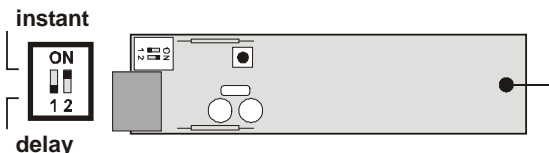

Figure: 2 The JA-60N transmitter
- To enroll the barrier to a Jablotron alarm system insert its battery into the RX unit (white mark) while the receiver (JA-63KR, UC-260 etc) is in enrollment mode (see also the installation manual of the receiving unit). Set the reaction of the barrier by DIP switch number 1 on the JA-60N transmitter (see Figure 2):